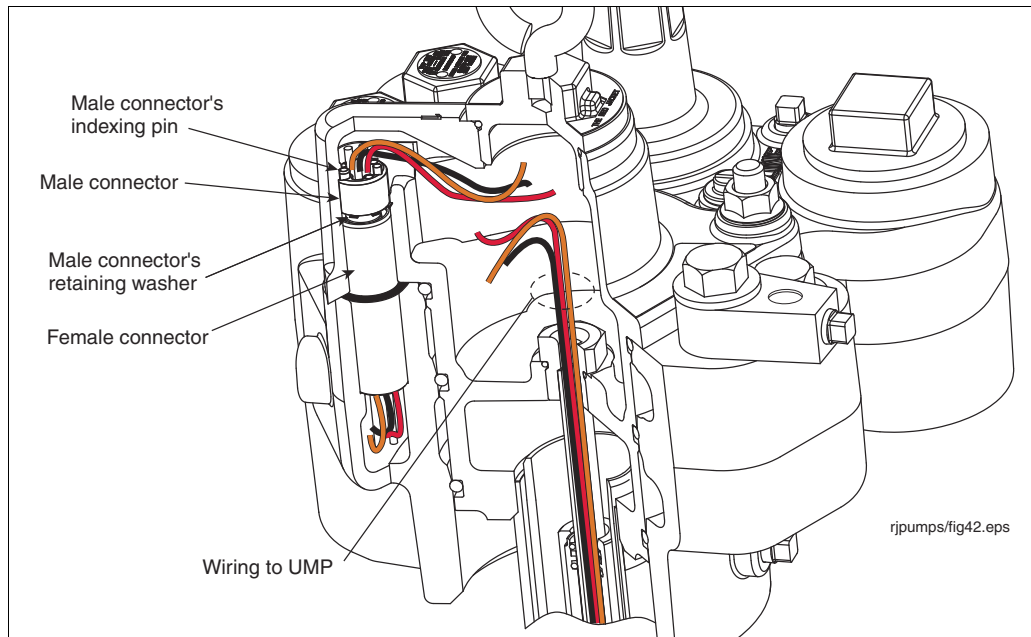

Figure 36. Packer-To-Manifold Wiring Connectors
5. Locate the male connector inside the packer (see Figure 36).
22. Remove the manifold's female connector's o-ring. Get the 0.862" ID x 0.103" wide o-ring from the connector kit and lubricate it with petroleum jelly. Insert this o-ring in its groove in the manifold around the female connector (see Figure 36 on page 51).